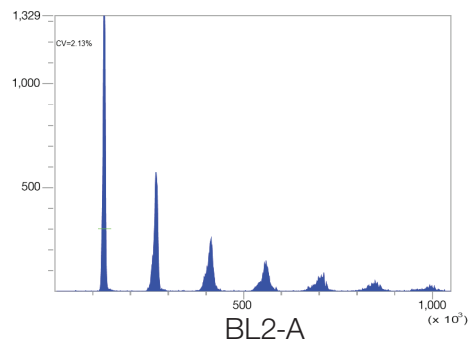

Figure 5. Chicken erythrocyte nuclei stained with propidium iodide and analyzed at a sample rate of 100 $\mu\text{L}/\text{min}$.
The Attune NxT Flow Cytometer is designed to have a coefficient of variation (CV) of less than 3% for the singlet peak of chicken erythrocyte nuclei stained with propidium iodide (Figure 5).